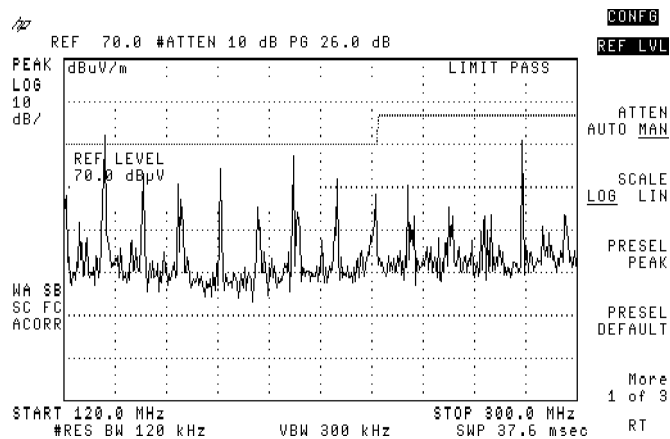

Figure 3-56. Increased EMC Analyzer's Sensitivity
27. Press 70, **(dB)**. See Figure 3-56.